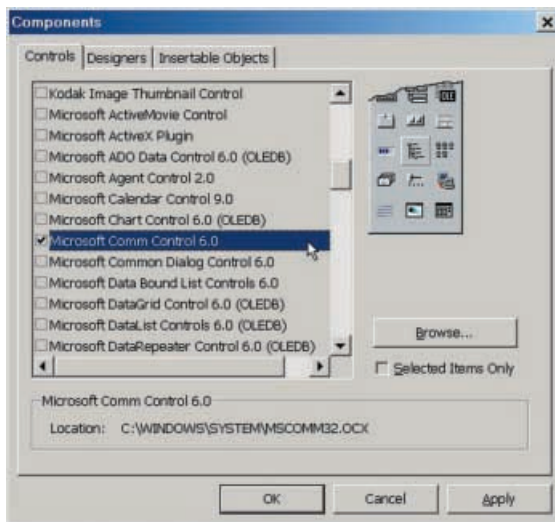

Fig.1. The MSComm control must be switched on via the Components window.
In order to do this, first select Components from the Project menu, which will produce a window showing all the available components (Fig.1). Scroll down the list for a control called "Microsoft Comm Control 6.0". You do not have a suitable version of Visual BASIC if this control is not listed. Assuming it is present and correct, place a tick in its checkbox and then operate the Apply button followed by the Close (OK) button. The icon for MSComm, which looks like a yellow telephone, should then appear in the Toolbox.